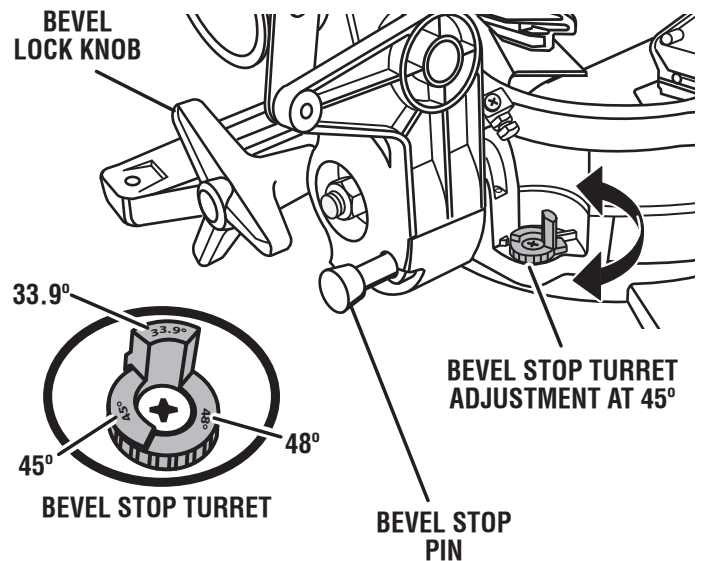

Fig. 27
NOTE: Use the bevel stop turret to locate 33.9°, 45°, and 48° bevel angles. See Figure 27.
- **NOTE:** Use the bevel stop turret to locate 33.9°, 45°, and 48° bevel angles. See Figure 27.